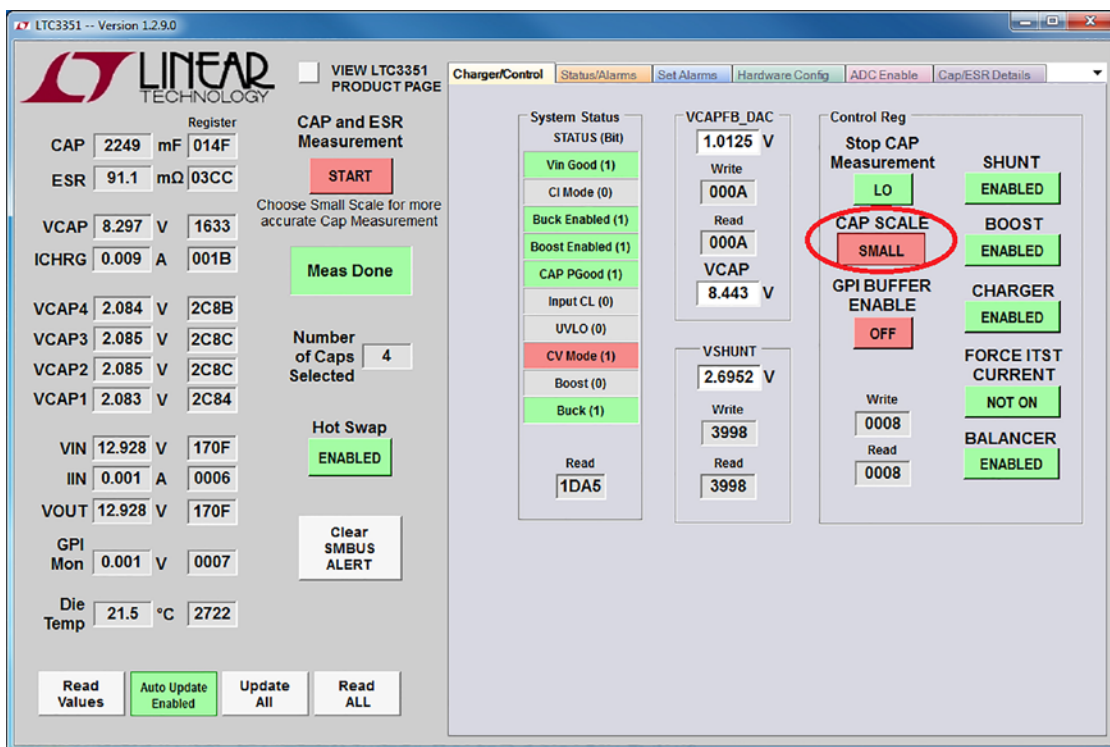

Figure 9. LTC3351 Control Window
5. Start the ADI QuikEval program. This program should automatically detect the presence of the LTC3351 demo board (DC2464A) and activate the appropriate GUI, as seen in Figure 9.
8. On the LTC3351 Control Window “Charger/Control” tab, as shown in Figure 9, click on the CAP SCALE button so it displays “SMALL”. This will provide better time measurement resolution when measuring the capacitance.
The LTC3351 program provides the ability to measure and monitor the system voltages and currents plus the health of the supercapacitors. It also allows the user to set up alarms to report on specific events such as power fail or CAP measurement done. Refer to Figure 9 for an illustration of the LTC3351 control window.
The Charger Control tab contains the indicators and controls for the capacitor charger and monitor plus the GPI buffer enable as shown in Figure 9.